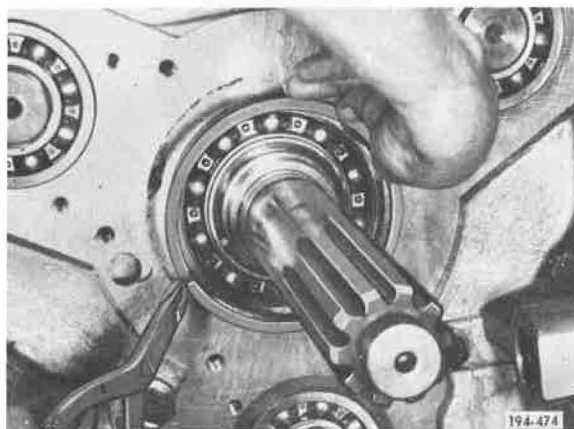

Figure 372. Installing Snap Ring
7. Position transmission horizontally. Install front compound main drive pinion bearing positioning snap ring, using snap ring pliers J-25445, or equivalent. See Figure 372.